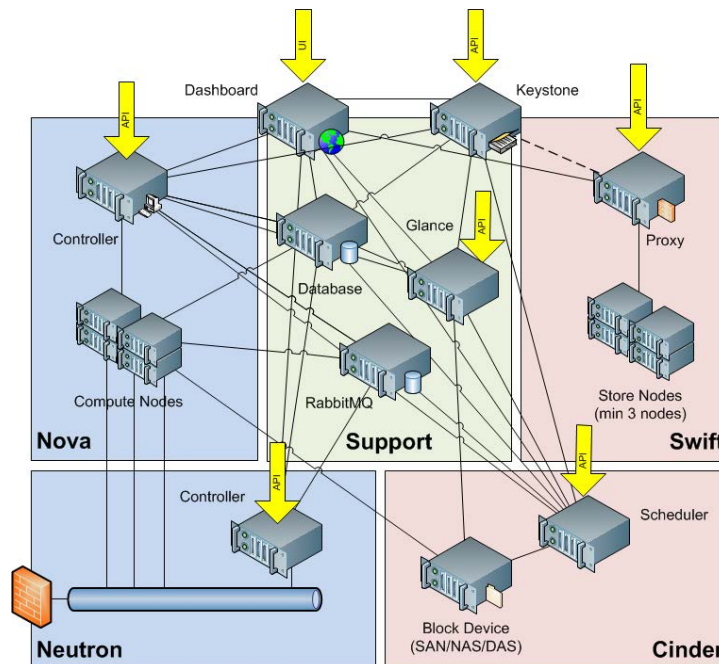

Figure 3: OpenStack Architecture
Figure 3 shows Nova, Swift, and shared components for the OpenStack projects deployed by Crowbar. The yellow arrows indicate projects that provide an HTTP API or user interface (UI). This diagram shows the interconnections that are configured automatically. Users must adapt the placement of components to suit requirements and capabilities of each site.